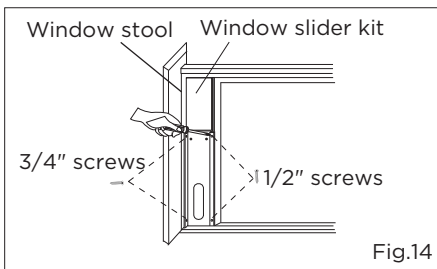

Fig.14
3. Close the window sash securely against the window slider kit. (Fig.14)
4. Drive two 1/2" screws to secure the window slider kit to the window sash. (Fig.14)
5. Drive two 3/4" screws to secure the window slider kit to the window stool. (Fig.14)